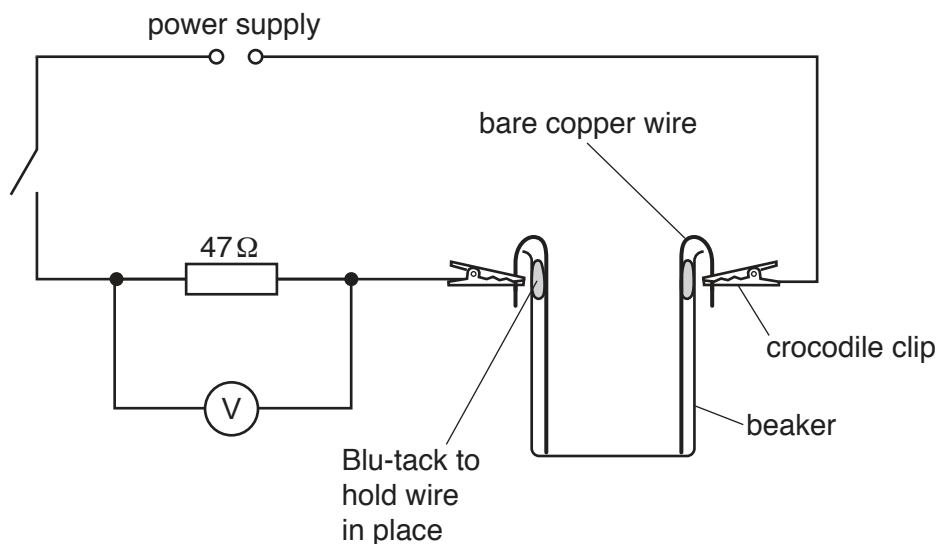

Fig. 3.1
2. The wires should be fixed to the inside of the 250 cm³ beaker diametrically opposite to each other. Pieces of Blu-tack can be used for this purpose. Both wires should just touch the bottom of the beaker and the excess length should be folded over the rim of the beaker and the crocodile clips should be attached, as shown in Fig. 3.1. If enamelled wire is used, the enamelling **must** be removed, e.g. by moving the wire through a Bunsen flame and then cleaning the wire.